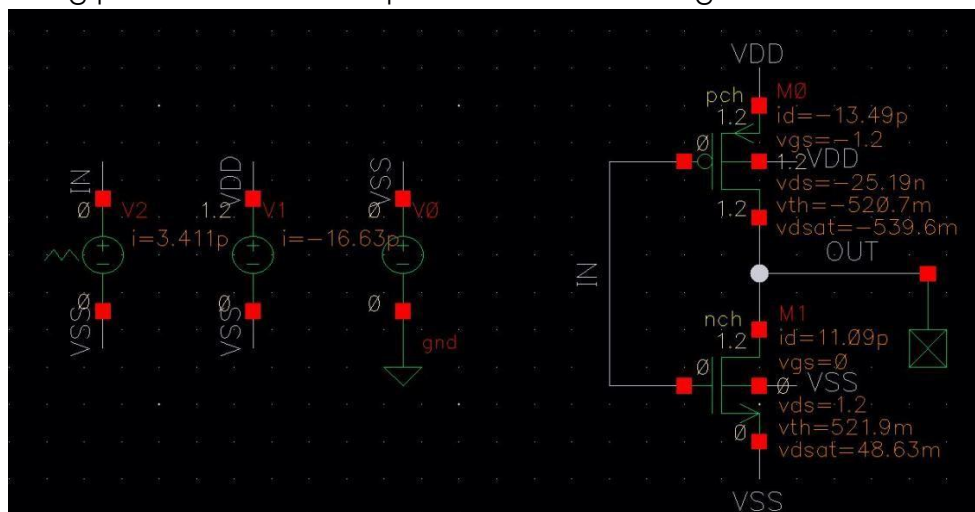

Figure 14: DC_Node_Voltages and DC_Operating_Points
17. Now go to schematic window and it will show all the DC node voltages and operating points of all the components as shown in figure 14.